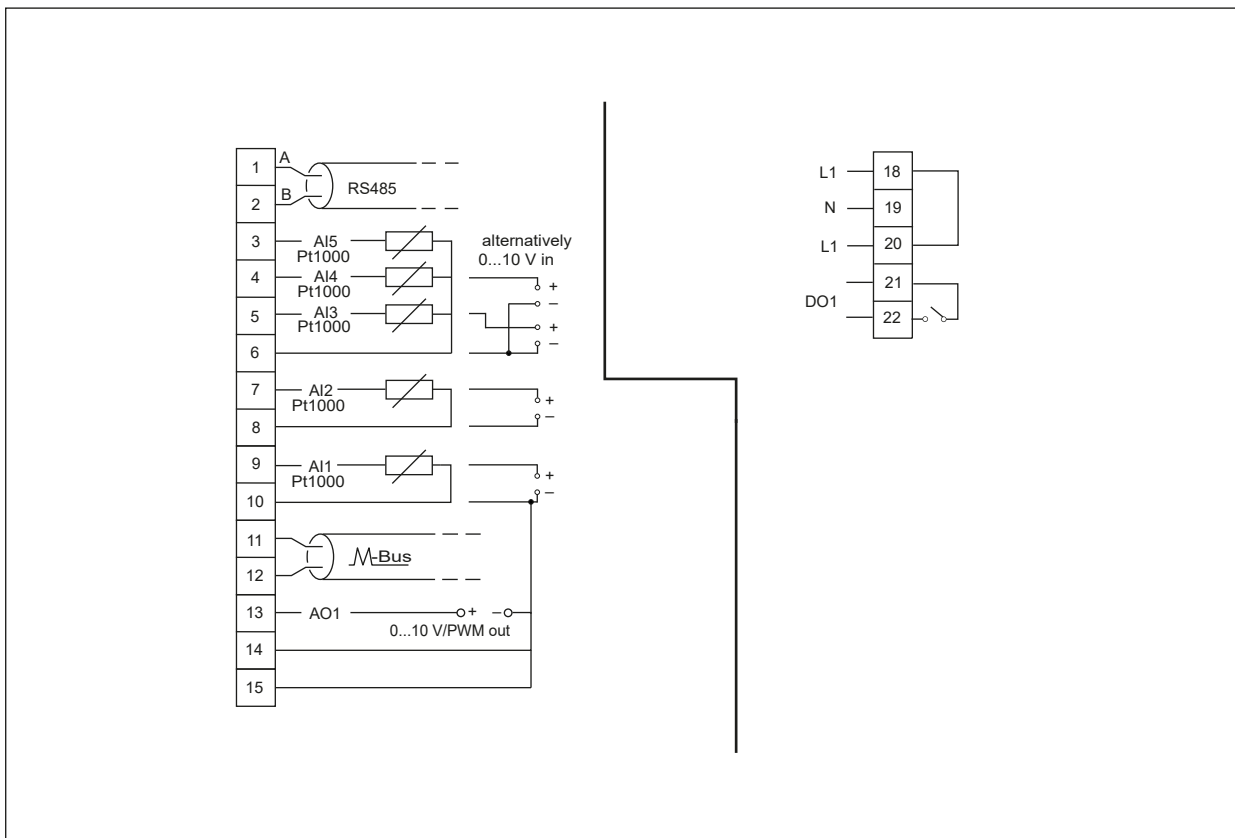

Fig. 5: Electrical connection · Type 5656
- ⇒ Observe terminal assignment (see Fig. 5).